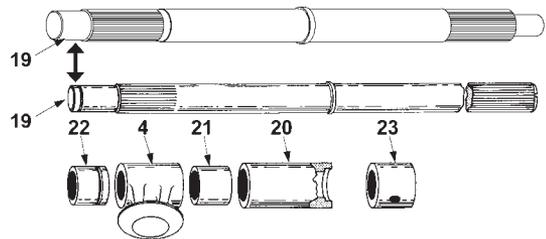

Figure 9
- B. Place the valve body (1) on a flat surface so that the seat is down.
- C. Coat the lower guide bushing (22) with recommended lubricant and insert into the body.
**Note:** The groove in the guide bushing (22) must be towards the body center. Refer to Figure 9 for correct assembly sequence. If the shaft (19) is the previous design it may have a circular groove, if so, install the retaining ring (18).